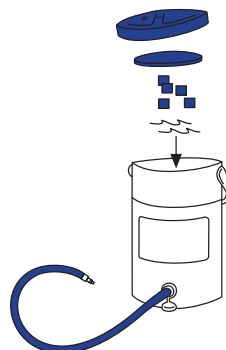

Figure 1
| 1. Before applying the Cryo/Cuff, prepare the cooler (Figure 1)..... | 4 |
1. Before applying the Cryo/Cuff, prepare the cooler (Figure 1)